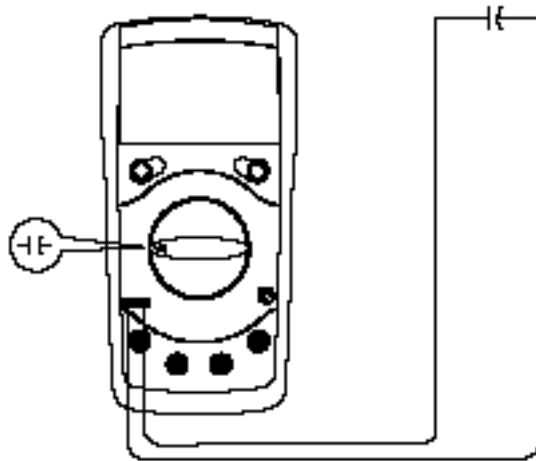

figure 6
- The test leads can add 0.1Ω to 0.3Ω of error to resistance measurement. To obtain precision readings in low-resistance measurement, that is the range of 200Ω , short-circuit the input terminals beforehand and record the reading obtained (called this reading as X). (X) Is the additional resistance from the test lead. Then use the equation: measured resistance value (Y) - (X) = precision readings of resistance.
F. CAPACITANCE MEASUREMENT (SEE FIGURE 6)